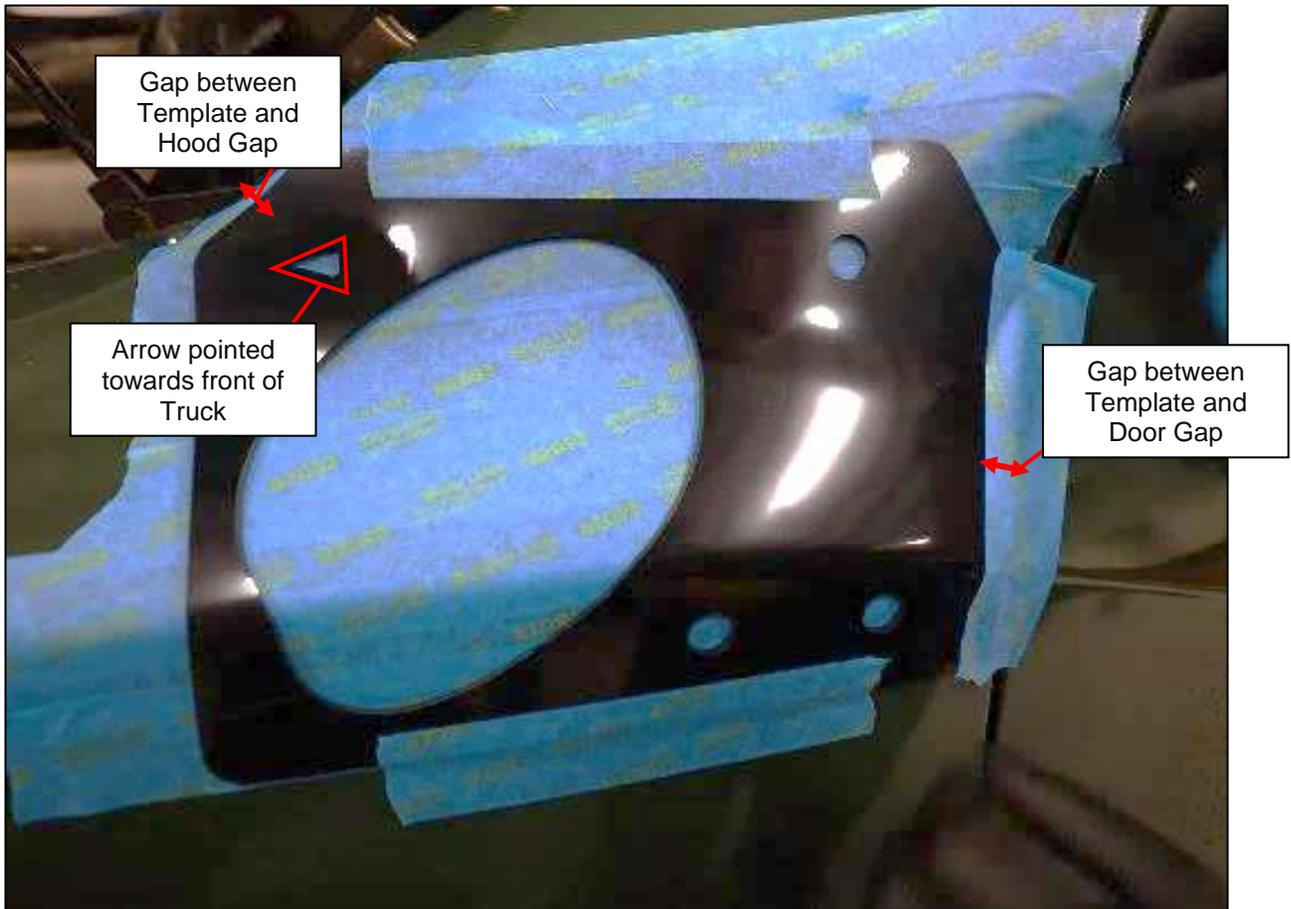

Figure 5
8. Locate the Locating Template and fit it to the Driver's Side Fender. The Locating Template is form fitted to the Fender and can only go on one way. The arrow on the template must face forward. You also want the gap from the Template-to-Door Gap and Template-to-Hood Gap to be the same. Once positioned, secure with Painters Tape. *Figure 5.*